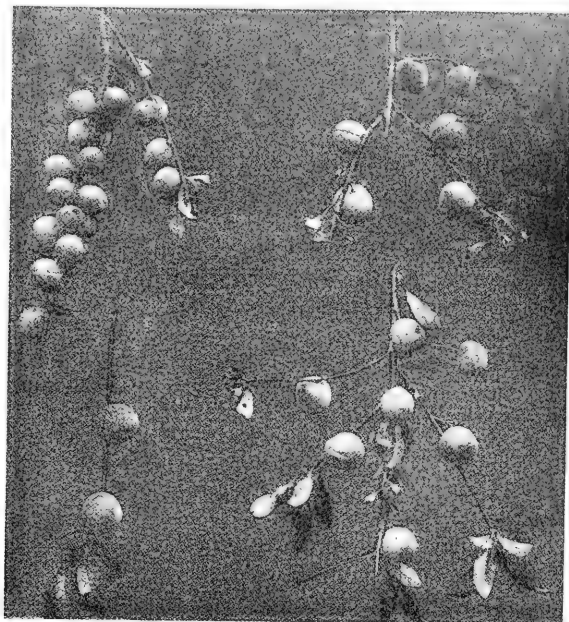

Fig. 115, Shows how to thin an Alexander peach tree.
4. Fig. 115 shows the results of thinning.